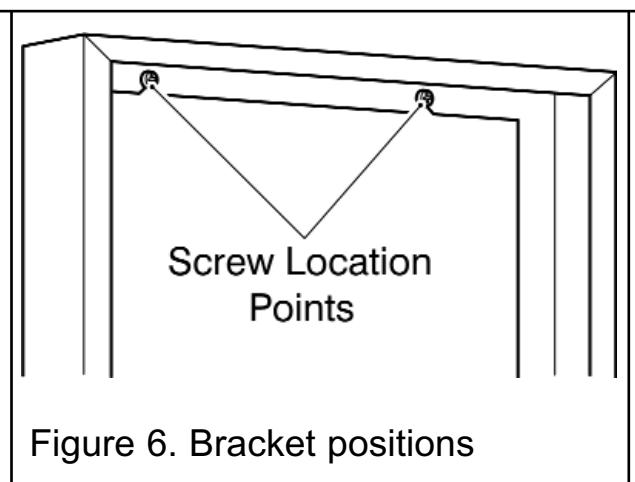

Figure 6. Bracket positions
2. The top rear flange of the spacer frame has two screw locations. Mark the positions of the two screw locations on the rear wall (See figure 6).